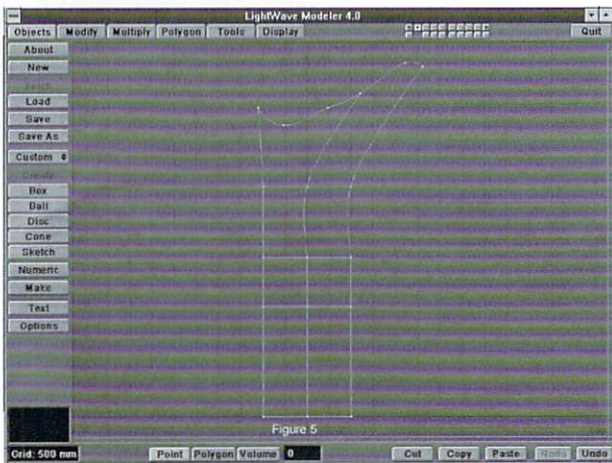

Figure 5
- Select **Add Point** (**Polygon** panel) and add points to the end polygon. My splint had a total of six points. Try to add the points equidistant from each other (Figure 5).
- **Move** or **Drag** (**Modify** panel) each individual point so it mimics Figure 5. Great! We're getting there! What would happen if